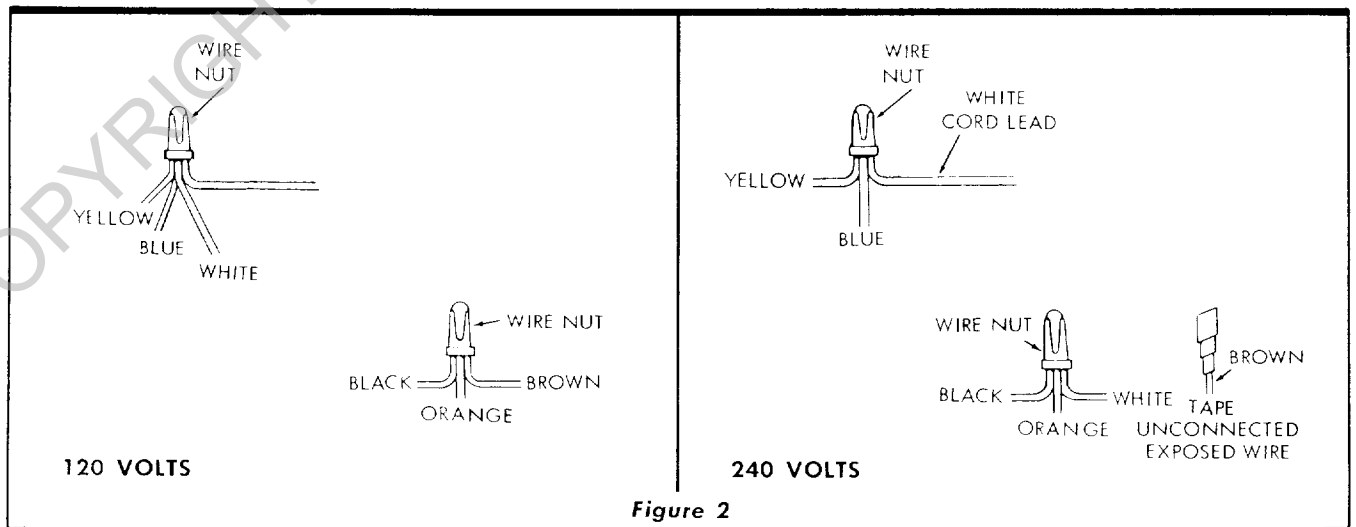

Figure 2
NOTE: This saw motor is wired at the factory for 120-volt, 60 cycle, AC service as shown in figure 2 and described in paragraph 1, below. Under normal home workshop use with proper voltage to the motor, the saw will operate with adequate efficiency. However, if any of the following conditions exist, it may be necessary to reconnect the saw for 240 volts AC as described in paragraph 2, below.
1. Connections For 120-Volts AC. (See figure 2.) When replacing a motor or connecting the saw to 120-volts for any reason, make sure the wires inside the motor terminal box are connected as follows:
2. Connections For 240-Volts AC. (See figure 2.) When connecting the motor for 240-volt operation, the following connections must be made inside the motor terminal box:
- a. Connect the YELLOW and BLUE leads in the motor terminal box to the WHITE cord lead. Twist bare ends together and install a wire nut as shown in figure 2.